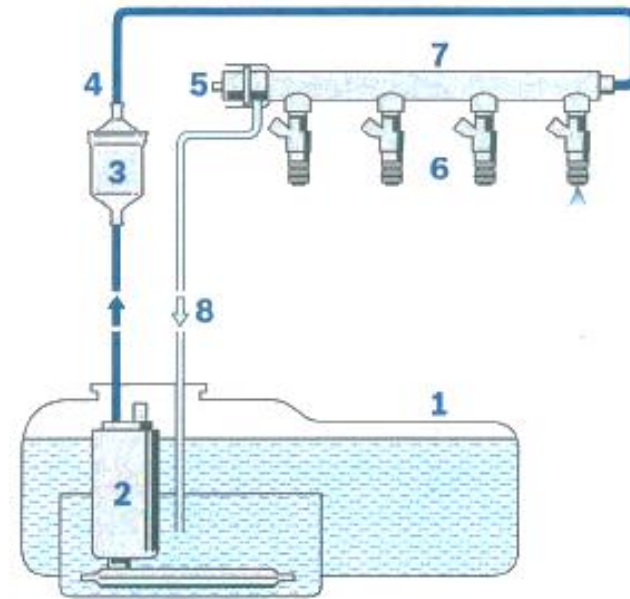

Figure 2 Fuel regulator vacuum controlled system with fuel return
The fuel is drawn from the fuel tank (Figure 2) and passes through the fuel filter in to a high-pressure line, from where it flows to the engine-mounted fuel rail (7). The rail supplies the fuel to the fuel injectors (6). A mechanical pressure regulator (5) mounted on the rail keeps the differential pressure between the fuel injectors and the intake manifold constant, regardless of the absolute intake manifold pressure, i.e., the engine load. The pressure regulator can do this as it is controlled by the inlet manifold vacuum, the greater the vacuum the more fuel the regulator allows to escape back to the fuel tank. The excess fuel heated in the engine compartment causes the fuel temperature in the tank to rise. Fuel vapours are formed in the tank as a function of fuel temperature. Ensuring adherence to environmental protection regulations, the vapours are routed through a tank ventilation system for intermediate storage in a carbon canister until they can be returned through the intake manifold for combustion in the engine (evaporative emissions control system).